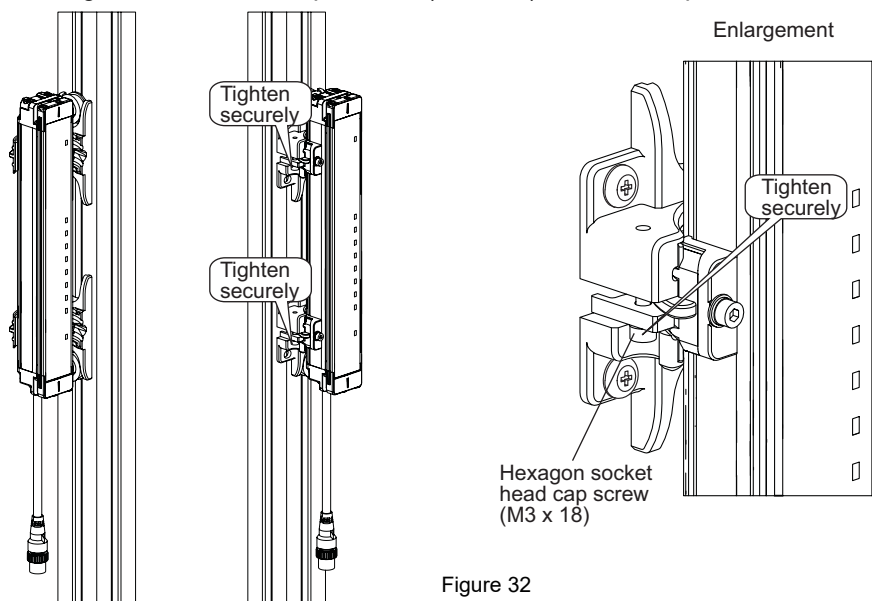

Figure 32
## 7. Tighten two hexagon socket head cap screws (M3 x 18) on Intermediate Bracket (3) to prevent rotation. (Figure 32) Tighten the hexagon socket head cap screws (M3 x 18) with the torque at 0.54 N·m (recommended).